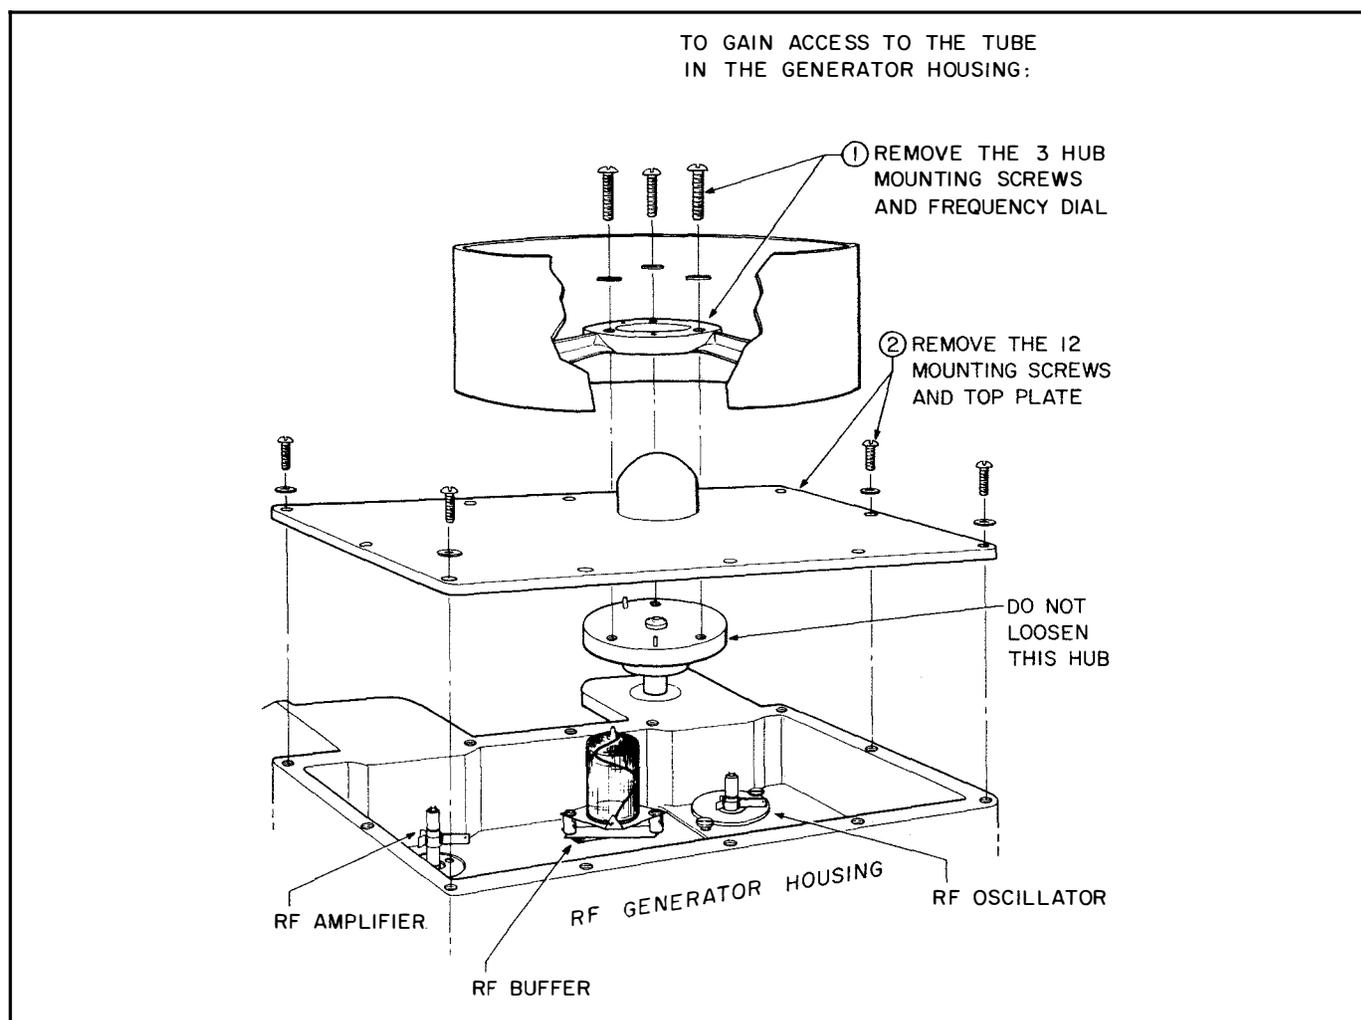

Figure 6-1. Diagram Showing Access to R-F Oscillator, Buffer and Amplifier Tubes
- a. To gain access to the r-f tubes, remove signal generator from cabinet and remove frequency dial and tube compartment top plate as shown in Figure 6-1.
- a. With signal generator removed from cabinet, refer to Figure 6-1 and remove frequency dial assembly.